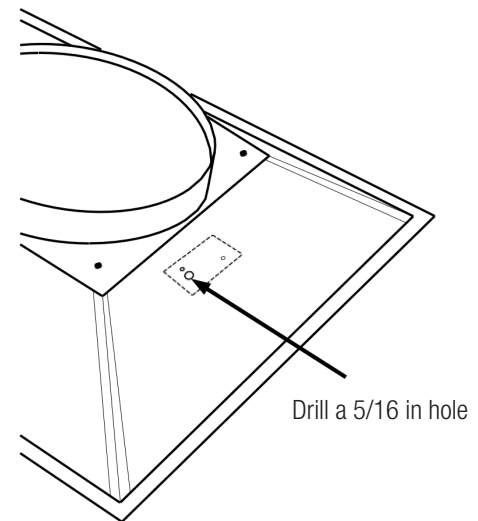

Fig. 1
1. Drill a 5/16 in. hole in the top of the backpan on the same side as the thermostats (see Figure 1).